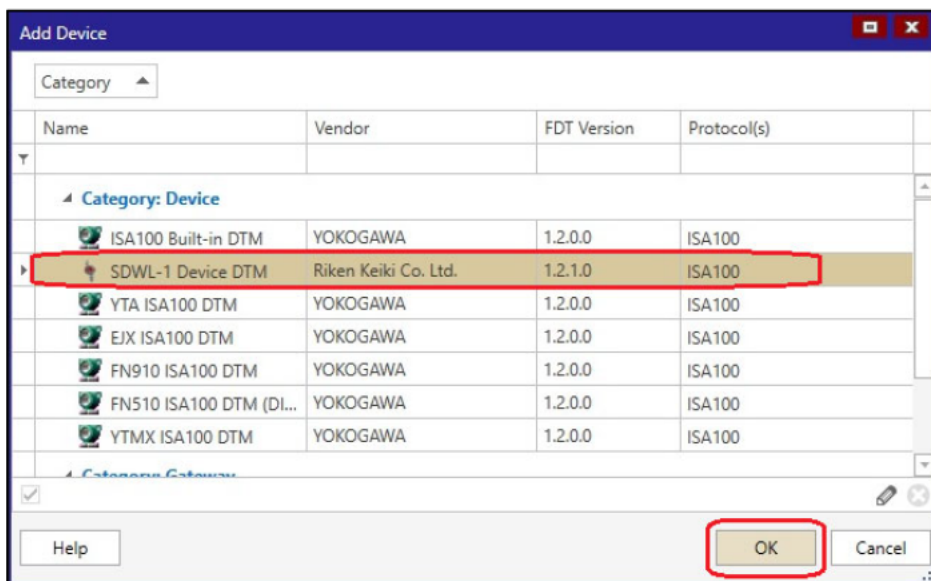

Figure 5-45 Selecting SDWL-1 DTM
- ⑦ Select “SDWL-1 Device DTM” (DTM for SDWL-1) from the device list. (Figure 5-45)